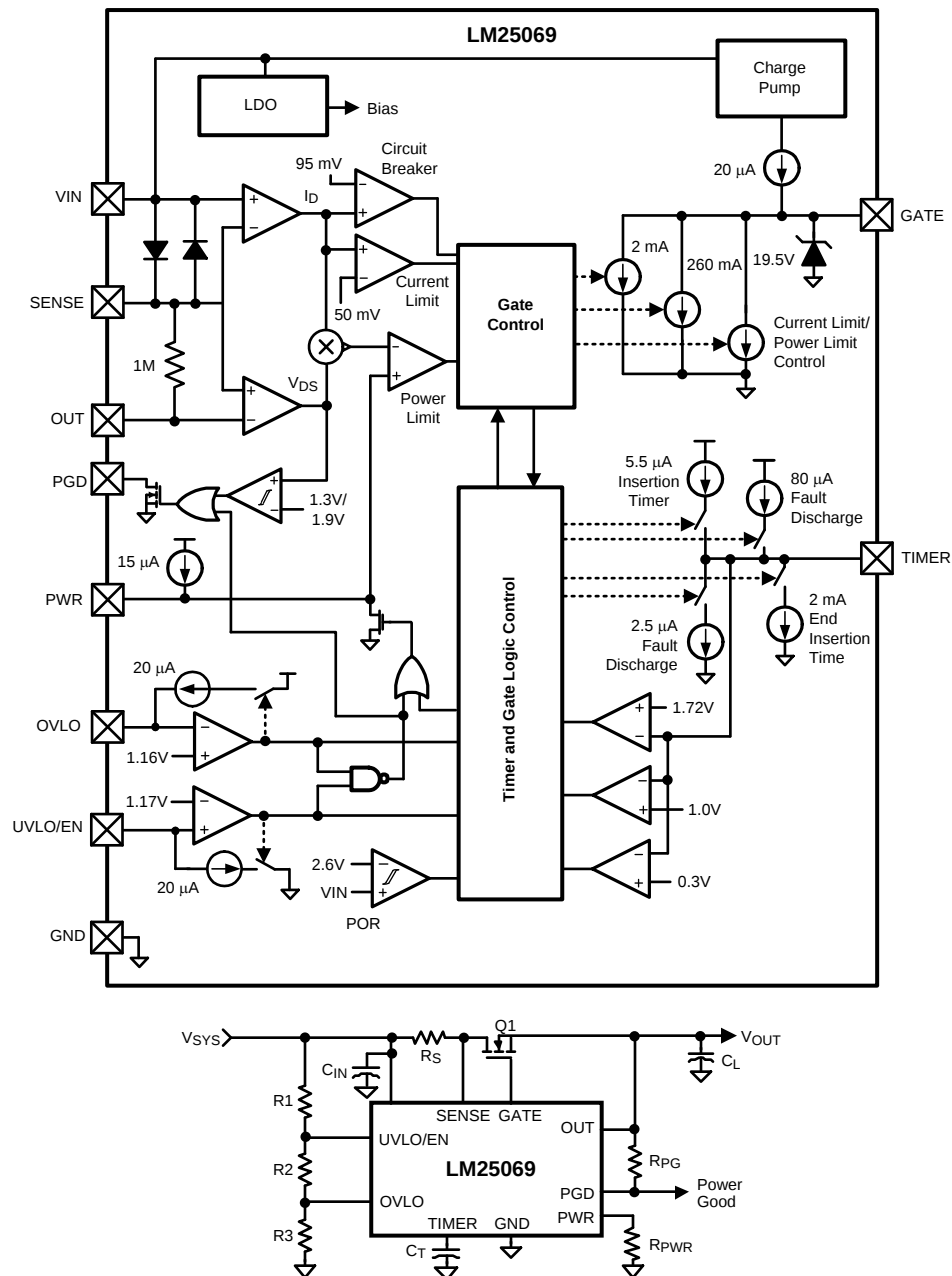
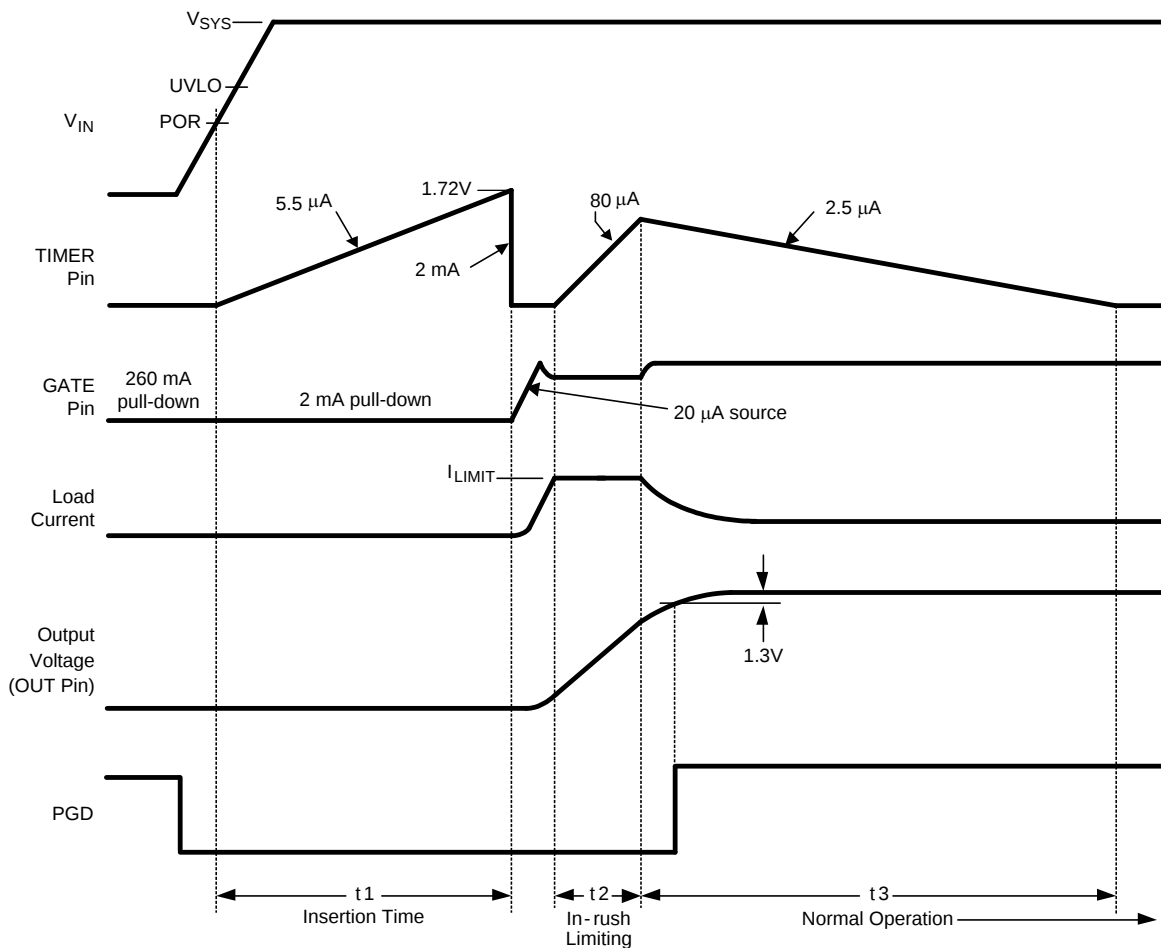

Figure 21. Basic Application Circuit
Figure 23. Power Up Sequence (Current Limit only)
The VIN operating range of the LM25069 is +2.9V to +17V, with a transient capability to 20V. Referring to the Block Diagram and Figure 21 and Figure 23, as the voltage at VIN initially increases, the external N-channel MOSFET (Q1) is held off by an internal 260 mA pull-down current at the GATE pin. The strong pull-down current at the GATE pin prevents an inadvertent turn-on as the MOSFET's gate-to-drain (Miller) capacitance is charged. Additionally, the TIMER pin is initially held at ground. When the VIN voltage reaches the POR threshold the insertion time begins. During the insertion time, the capacitor at the TIMER pin (C_T) is charged by a 5.5 μ A current source, and Q1 is held off by a 2 mA pull-down current at the GATE pin regardless of the VIN voltage. The insertion time delay allows ringing and transients at VIN to settle before Q1 is enabled. The insertion time ends when the TIMER pin voltage reaches 1.72V. C_T is then quickly discharged by an internal 2 mA pull-down current. The GATE pin then switches on Q1 when V_{SYS} exceeds the UVLO threshold. If V_{SYS} is above the UVLO threshold at the end of the insertion time, Q1 switches on at that time. The GATE pin charge pump sources 20 μ A to charge Q1's gate capacitance. The maximum voltage at the GATE pin is limited by an internal 19.5V zener diode.
As the voltage at the OUT pin increases, the LM25069 monitors the drain current and power dissipation of MOSFET Q1. In-rush current limiting and/or power limiting circuits actively control the current delivered to the load. During the in-rush limiting interval (t_2 in Figure 23) an internal 80 μ A fault timer current source charges C_T . If Q1's power dissipation and the input current reduce below their respective limiting thresholds before the TIMER pin reaches 1.72V the 80 μ A current source is switched off, and C_T is discharged by the internal 2.5 μ A current sink (t_3 in Figure 23). The in-rush limiting interval is complete when the voltage at the OUT pin increases to within 1.3V of the input voltage (V_{SYS}), and the PGD pin switches high.
A charge pump provides the voltage at the GATE pin to enhance the N-Channel MOSFET's gate. During normal operating conditions (t3 in Figure 23) the gate of Q1 is held charged by an internal 20 μ A current source. The voltage at the GATE pin (with respect to ground) is limited by an internal 19.5V zener diode. See the graph GATE Pin voltage. Since the gate-to-source voltage applied to Q1 could be as high as 19.5V during various conditions, a zener diode with the appropriate voltage rating must be added between the GATE and OUT pins if the maximum V_{GS} rating of the selected MOSFET is less than 19.5V. The external zener diode must have a forward current rating of at least 260 mA.
During the insertion time (t1 in Figure 23) the GATE pin is held low by a 2 mA pull-down current. This maintains Q1 in the off-state until the end of t1, regardless of the voltage at VIN or UVLO.
Following the insertion time, during t2 in Figure 23, the gate voltage of Q1 is modulated to keep the current or power dissipation level from exceeding the programmed levels. While in the current or power limiting mode the TIMER pin capacitor is charging. If the current and power limiting cease before the TIMER pin reaches 1.72V the TIMER pin capacitor then discharges, and the circuit enters normal operation.
The series pass MOSFET (Q1) is enabled when the input supply voltage (V_{SYS}) is within the operating range defined by the programmable under-voltage lockout (UVLO) and over-voltage lock-out (OVLO) levels. Typically the UVLO level at V_{SYS} is set with a resistor divider (R1-R3) as shown in Figure 21. Referring to the Block Diagram when V_{SYS} is below the UVLO level, the internal 20 μ A current source at UVLO is enabled, the current source at OVLO is off, and Q1 is held off by the 2 mA pull-down current at the GATE pin. As V_{SYS} is increased, raising the voltage at UVLO above its threshold the 20 μ A current source at UVLO is switched off, increasing the voltage at UVLO, providing hysteresis for this threshold. With the UVLO pin above its threshold, Q1 is switched on by the 20 μ A current source at the GATE pin if the insertion time delay has expired. See the Applications Section for a procedure to calculate the values of the threshold setting resistors (R1-R3). The minimum possible UVLO level at V_{SYS} can be set by connecting the UVLO pin to VIN. In this case Q1 is enabled after the insertion time.
Application Information (Refer to Figure 21)
A) Insertion Delay - Upon applying the system voltage (V_{SYS}) to the circuit, the external MOSFET (Q1) is held off during the insertion time (t₁ in Figure 23) to allow ringing and transients at V_{SYS} to settle. Since each backplane's response to a circuit card plug-in is unique, the worst case settling time must be determined for each application. The insertion time starts when VIN reaches the POR threshold, at which time the internal 5.5 μA current source charges C_T from 0V to 1.72V. The required capacitor value is calculated from: